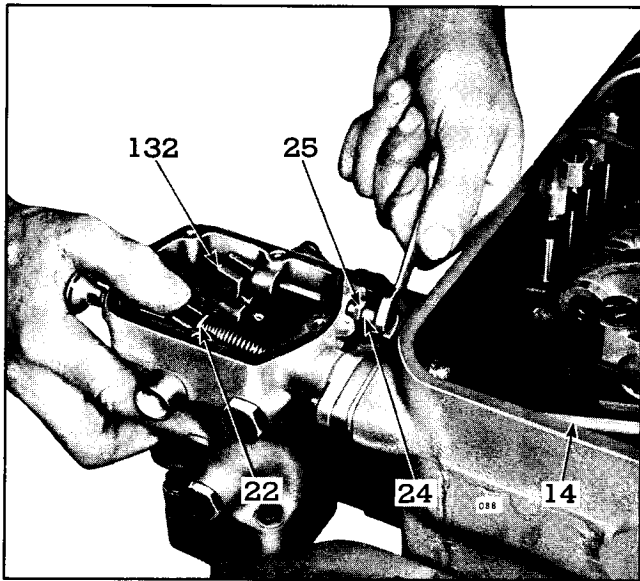

Fig. 3 - Adjusting Load Limit
1. Place fuel rod (14) and terminal lever (132) in the FULL FUEL position as shown in Fig. 3.
2. Loosen lock nut (25). Turn adjusting screw (24) until a .020" space exists between the fuel rod collar (22) and the terminal lever (132). Hold screw and tighten lock nut.